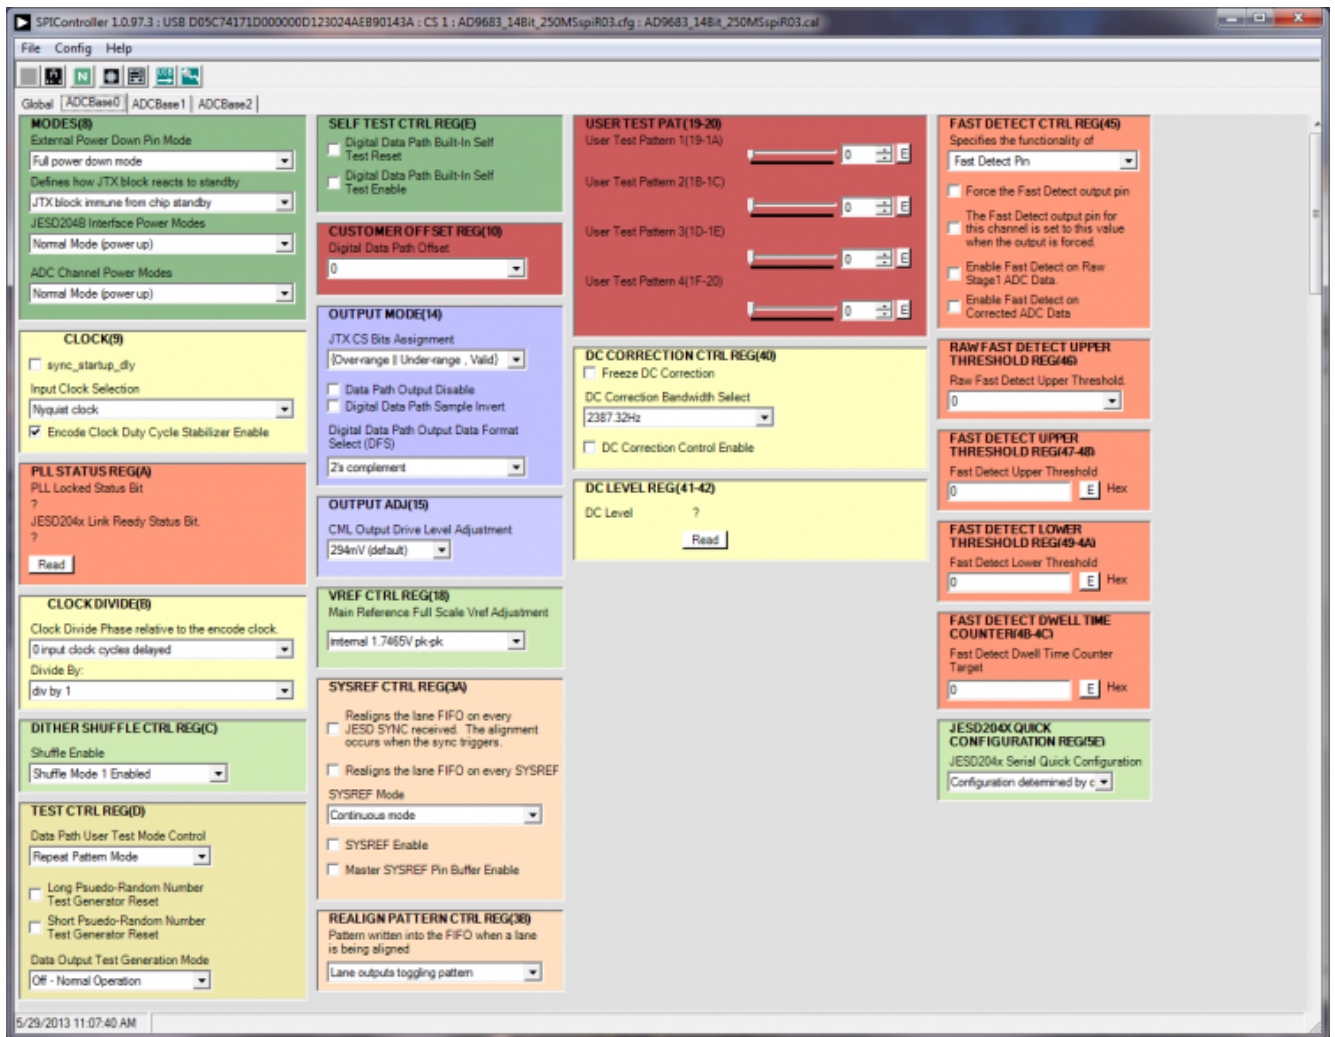
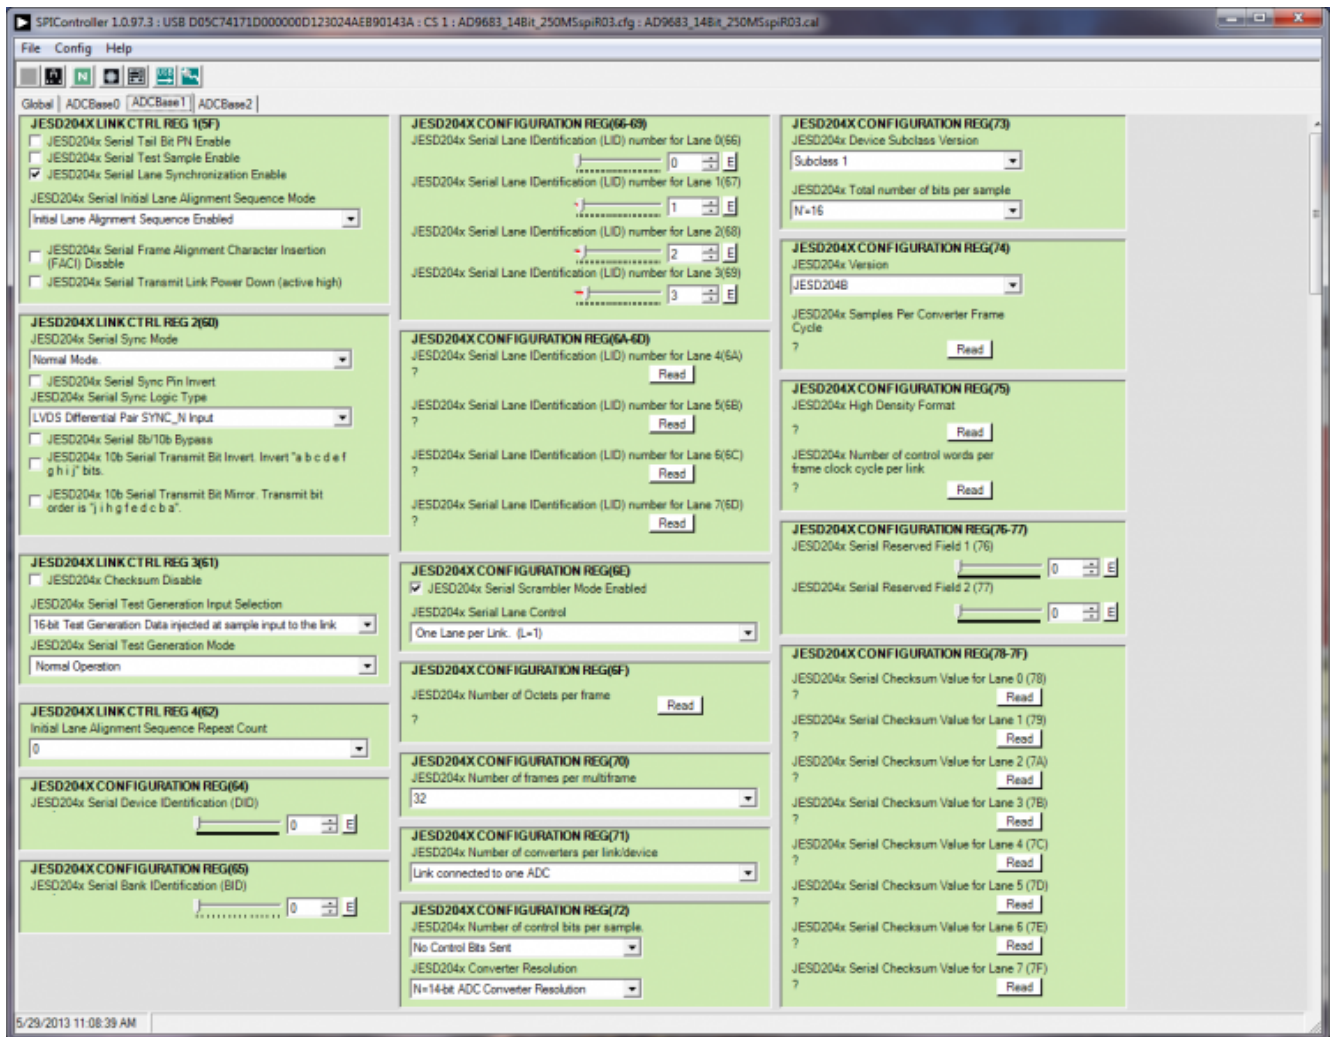

Figure 10. SPI Controller, ADCBase0
Figure 11. SPI Controller, Example ADCBase1 Page
3. In the **ADCBase 0** tab of the **SPIController** window, find the **CLOCK DIVIDE(B)** box (see Figure 10). If using the clock divider, use the drop-down box to select the correct clock divide ratio, if necessary. The Nyquist Clock is selected by default. If using the RF Clock, make sure to configure the device in this tab. For additional information, refer to the data sheet, the AN-878 Application Note, High Speed ADC SPI Control Software, and the AN-877 Application Note, Interfacing to High Speed ADCs via SPI.
4. Note that other settings can be changed on the **ADCBASE0** tab (see Figure 10) and the **ADCBASE1** and **ADCBASE2** tabs (see Figures 11 and 12) to set up the part in the desired mode. The **ADCBASE0** tab settings affect ADC settings, whereas the settings on the **ADCBASE1** and **ADCBASE2** tabs affect the JESD204B link settings. See the appropriate part data sheet, the AN-878 Application Note, High Speed ADC SPI Control Software, and the AN-877 Application Note, Interfacing to High Speed ADCs via SPI, for additional information on the available settings.
If the FFT window remains blank after **Run** in VisualAnalog (see Figure 11) is clicked, do the following: